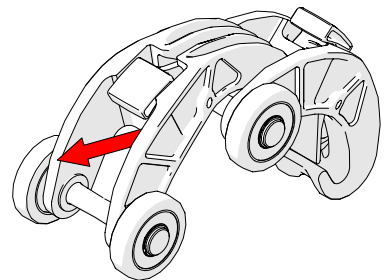

Fig. 96 - Pull the link backwards to secure catch
2. Pull the short link until you hear a click that ensures the latch has been set (Fig. 96).